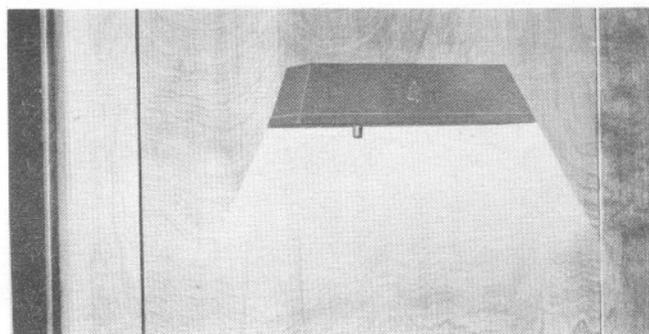

Fig. 7 — 2-type Light Fixture
- 8.02** The 2-type light fixture consists of a metal shade provided with a pull-chain lamp socket (see Fig. 7).